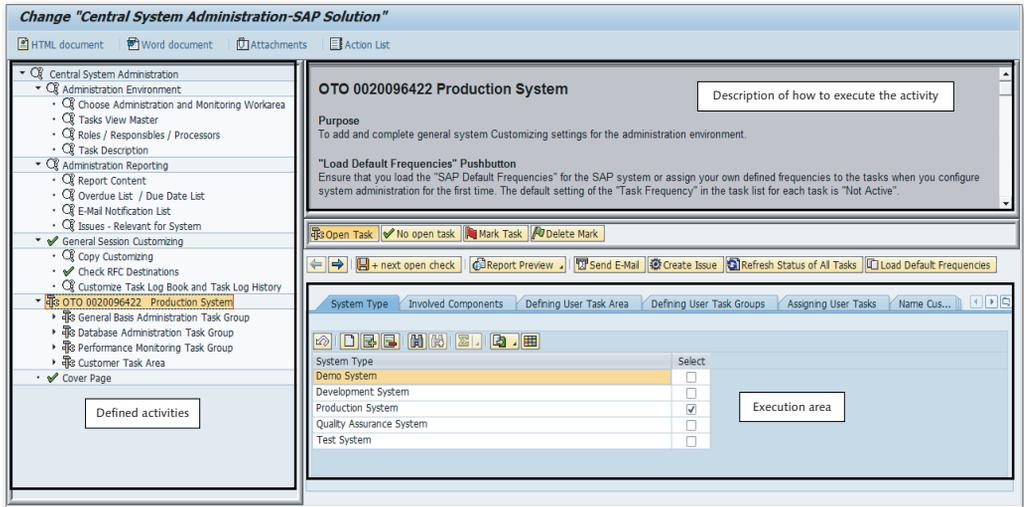
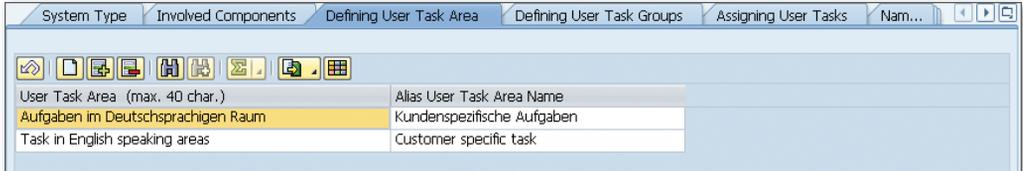

Figure 7.3 Configuring CSA for System OTO
Figure 7.4 Creating User Task Areas
Figure 7.3 shows the initial screen for configuring CSA for the system OTO. The configuration steps for CSA, including the tasks, are arranged in a tree structure on the left-hand side of the display screen. If you select one of these defined steps, this step is explained in more detail in the upper-right area. In the lower-right area, known as the *execution area*, you make your selection or enter the relevant data. CSA is available in English, Chinese, Japanese, and Russian.
- ▶ In the ADMINISTRATION ENVIRONMENT area (see Figure 7.3), you define the group of CSA users to which you wish to assign tasks, for example. CSA keeps an automatic log book in which the name of the person who executed the task and the time when the task was executed are logged.
2. Select the DEFINING USER TASK AREA tab page. When you enter a name for a USER TASK AREA, you generate a sub-node within CSA in the CUSTOMER TASK AREA node (see the left-hand screen area in Figure 7.3). In Figure 7.4, two user task areas, namely the German user task area AUFGABEN IM DEUTSCHSPRACHIGEN RAUM and the English task area TASK IN ENGLISH SPEAKING AREAS, were created. Save your entries.